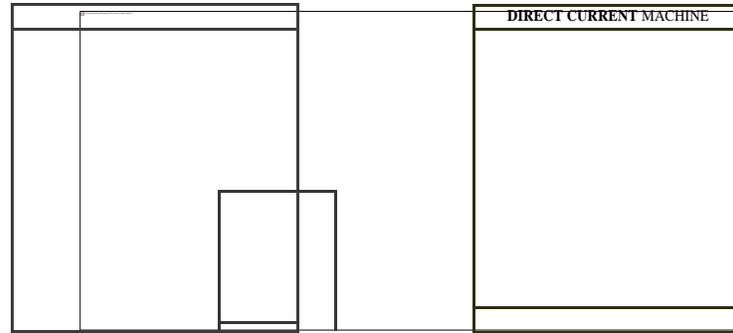

FIGURE 12.9
Step 3: a) Using your EMS DC Motor/Generator and the Data Acquisition Interface (DAI) modules in the EMS workstation, connect the circuit shown in Figure 12.9.